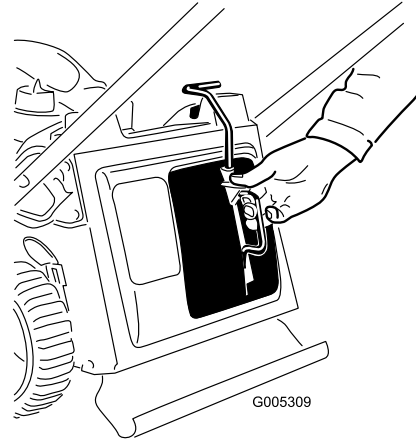
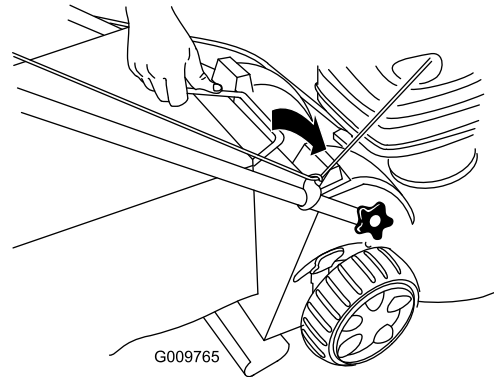

Figure 20
Figure 21
1. Install the mulch plug (Figure 20) or the grass bag (Figure 21) on the mower.